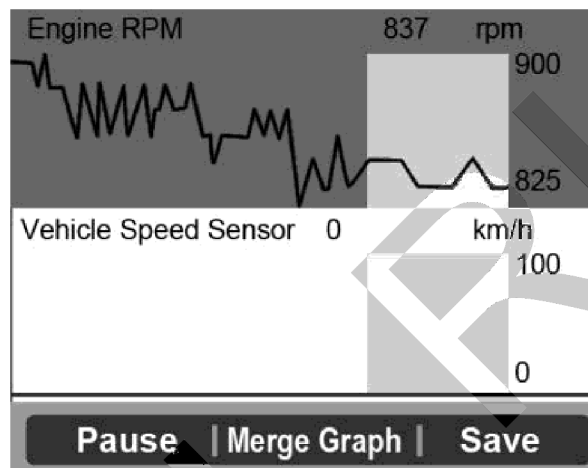

Figure 6.13
- If the “**Merge Graph**” on the bottom appears when a PID is selected to view, merged graph information is available. (Figure 6.13)